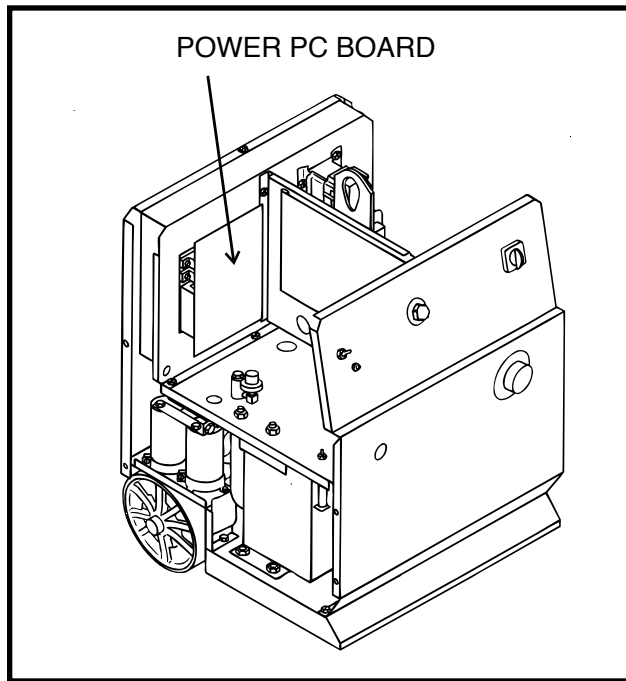

FIGURE F.8-Power Board Location
4. Locate Power Board. See **Figure F.8**.